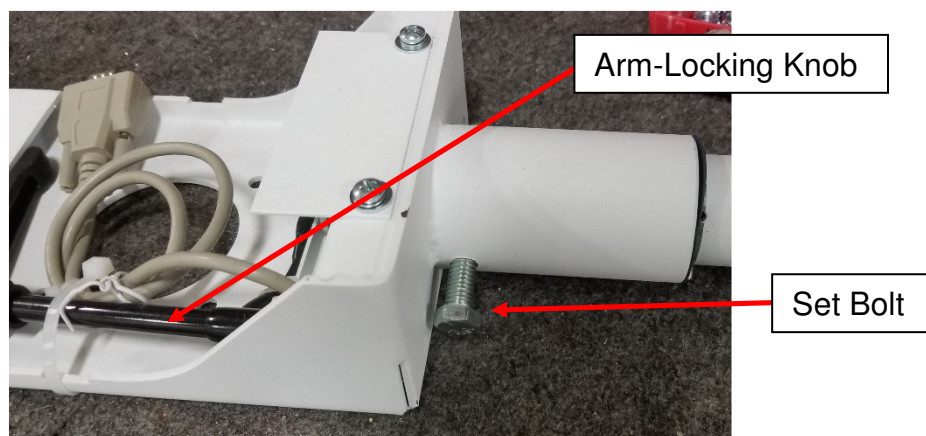

Figure 19: Roll Pot adjustment
1. Remove the two 1/4-20 mounting screws and washers shown in Figure 19 from the back of the console.
3. Route the “roll” potentiometer cable under the x-ray tube and connect it to the middle DB9 connector on the console. See Figure 19.